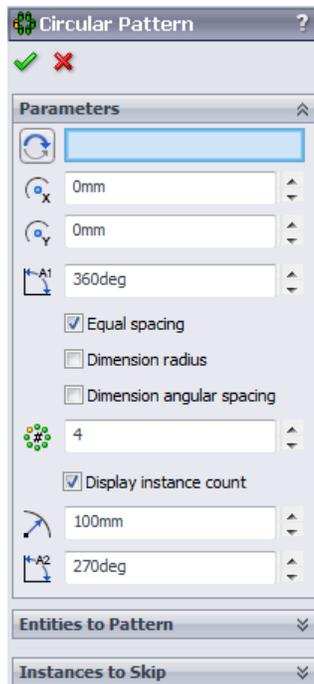

Figure 3-10 The Circular Pattern PropertyManager
23. Press the CTRL key and select both the horizontal lines and the arc of radius 10 mm. Next, choose the **Circular Sketch Pattern** tool from the **Linear Sketch Pattern** flyout in the **Sketch CommandManager**; the **Circular Pattern PropertyManager** is displayed, refer to Figure 3-10 and the preview of the circular pattern with default settings is displayed in the drawing area.